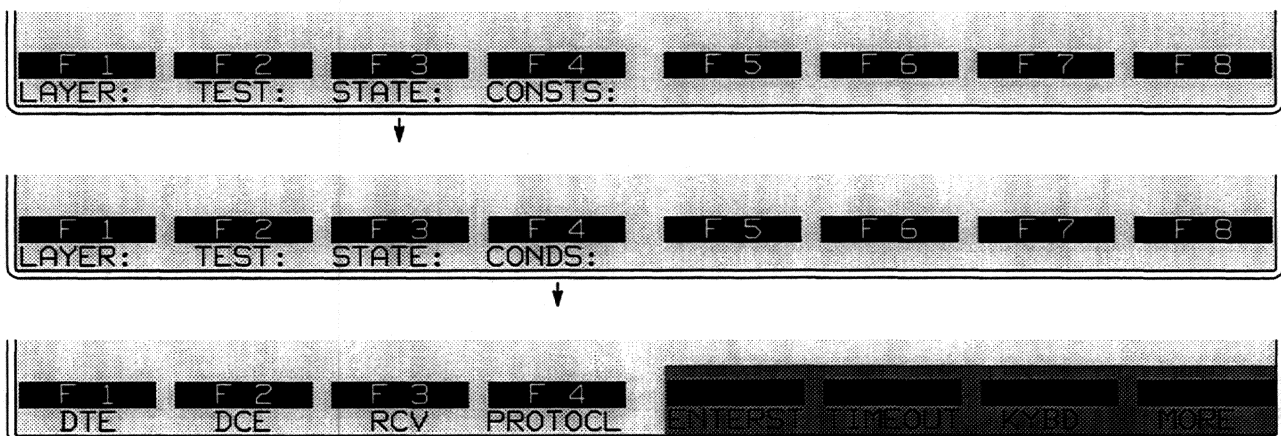

Figure 43-5 The softkeys for *DTE* and *DCE* are used to monitor LAPD protocol events at Layer 2.
- A group of conditions and actions at Layer 2 on the Protocol Spreadsheet that facilitate LAPD programming. Figure 43-5 shows the softkey path to the first rack of condition softkeys when the LAPD package is loaded in at Layer 2.
When the LAPD personality package is loaded in (via the Layer Setup screen), a set of conditions checks DTE and DCE leads. This set of conditions is accessed by the DTE and DCE selections on the first rack of condition softkeys at Layer 2. See Figure 43-5.